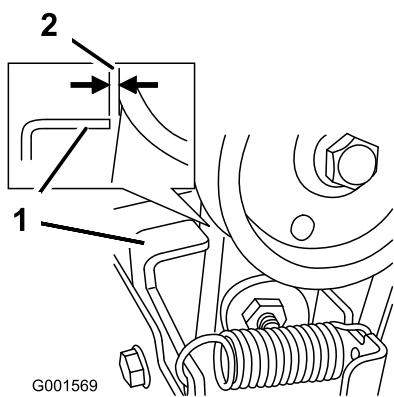

Figure 45
3. With the auger/impeller lever disengaged, ensure that the gap between the auger clutch assembly and the tab (1) is $1/16$ inch (1.5 mm) (Figure 45).